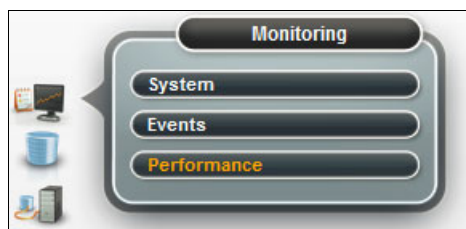

Figure 2-20 Opening the Monitoring Performance window
2. After a successful login, you can open the Monitoring function by clicking the **Monitoring** icon, and then selecting **Performance**, as shown in Figure 2-20.